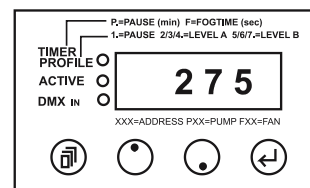

Fig.4: Changing to the Profile-Mode
- 1) Press the Mode button repeatedly until „Pro“ appears on the display (see Fig. 4).